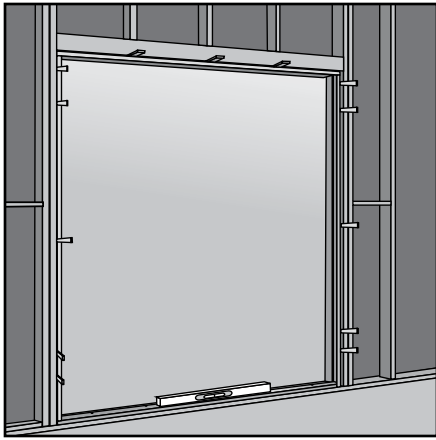

Fig. 20
2. CHECK SILL FOR LEVEL. Correct before installing (**Fig. 20**).